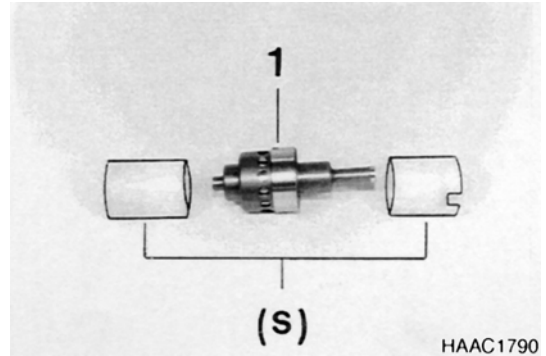

Figure 109
2. Figure 109, shows the special tool required for dismantling converter pressure valve.